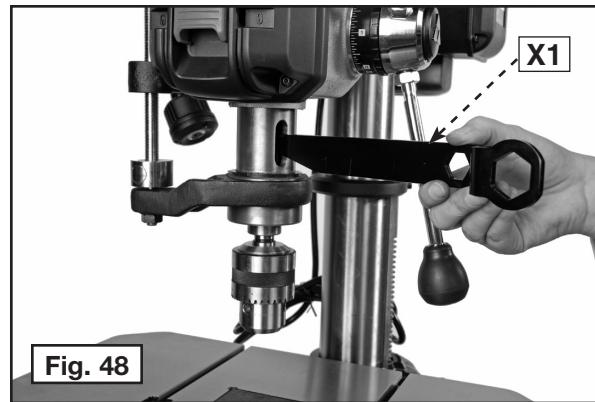

Fig. 48
2. Insert the drift key (X1) Fig. 48 through the slot in the quill and the slot in the spindle.
3. Tap the drift key (X1) Fig. 48 with a hammer until the